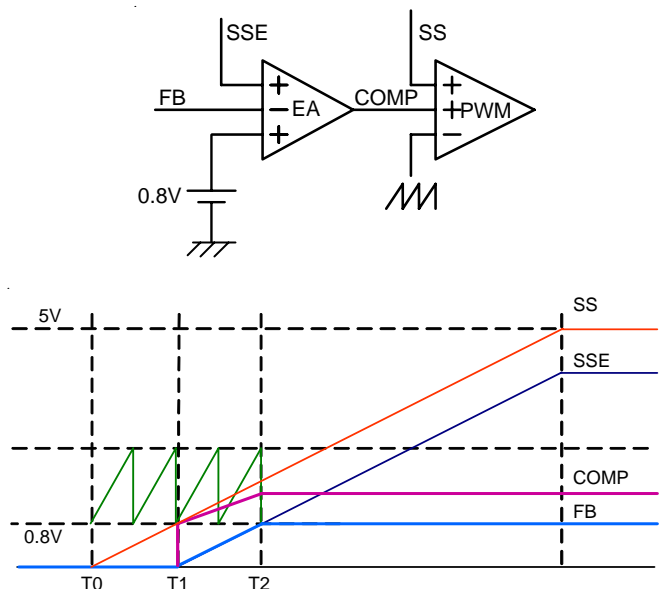

Figure 1. Timing diagram of softstart
The behavior of RT9232B Soft-Start can be simply described as shown in Figure.1 below; and the Soft-Start can be sliced to several time-frames with specific operation respectively.
The RT9232B initiates the softstart cycle as shown in Figure 1 when POR function is OK. An internal $10\mu A$ current source charges an external capacitor on SS pin (C_{SS}) to $5V$. The softstart function produces an SSE signal that is equal to $SS - 0.8V$. Error Amplifier (EA) and PWM comparator are triple-input devices. The non-inverting input